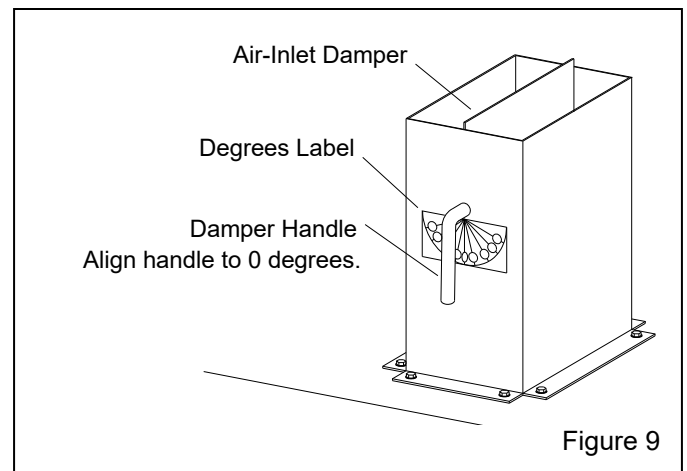

Figure 9
**2.7 Set Air-Inlet Damper – Figure 9**